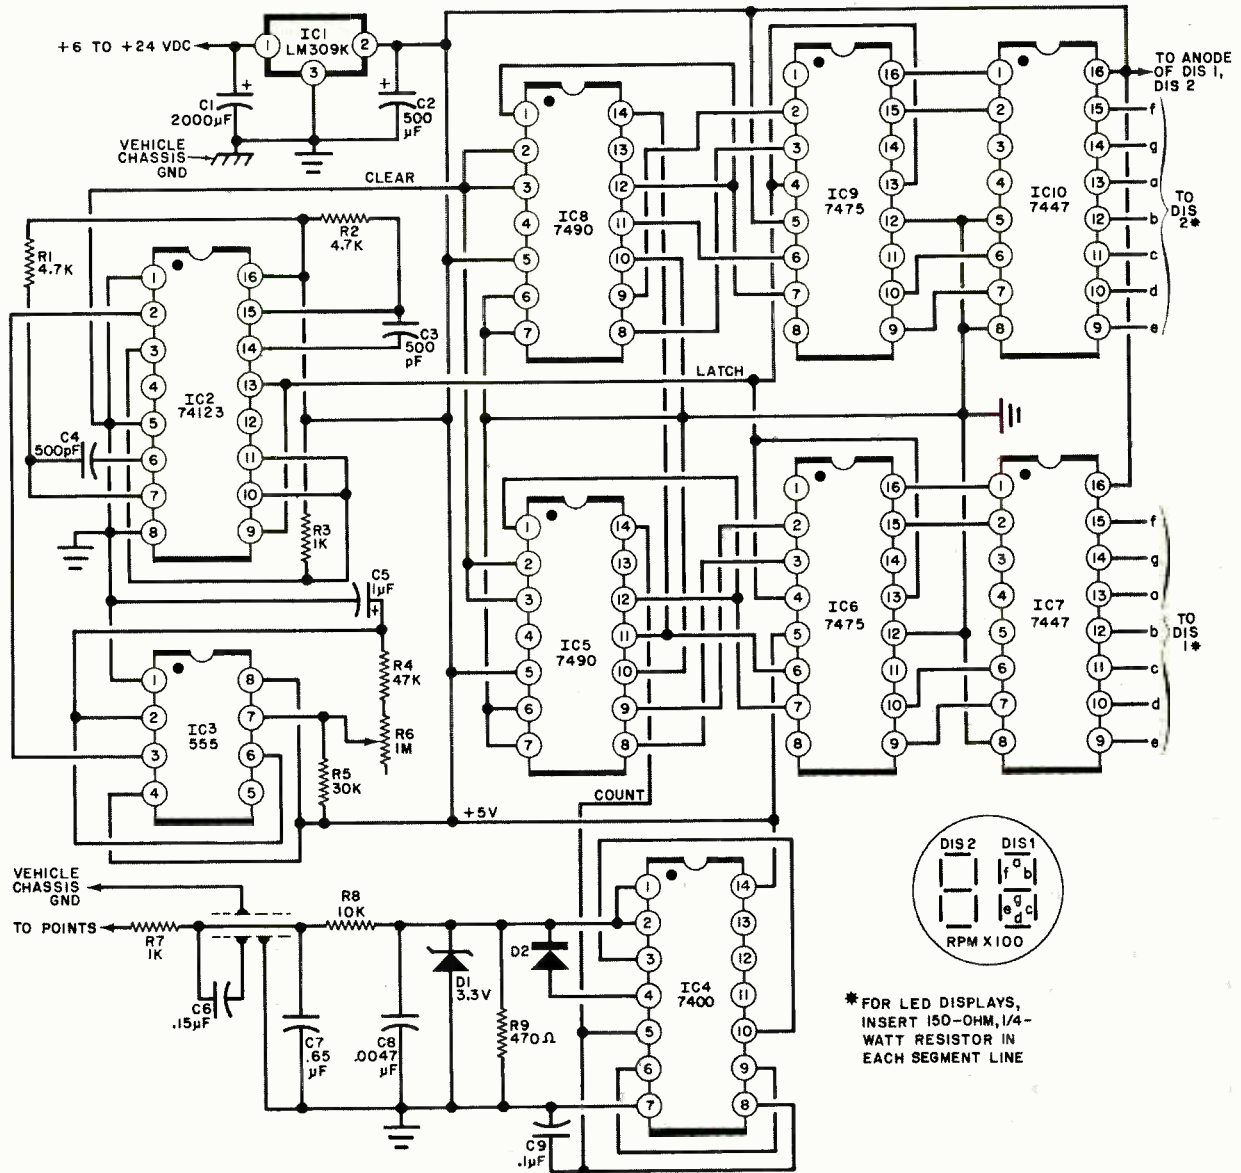

Fig. 1. The tachometer circuit is basically a frequency counter with two decades of display
**About the Circuit.** The schematic diagram of the auto/marine digital tach is shown in Fig. 1. It is basically a frequency counter that is modified for tachometer use. Only two decades of display are used, with *DIS1* indicating hundreds and *DIS2* indicating thousands of rpm. (Tens and units displays are not used because they would wander so fast that they would